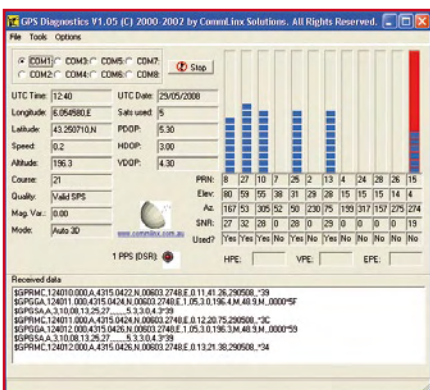

Figure 5. GPS Diagnostics lets you display and decode the NMEA frames.
- **GPS Diagnostics** [5] has a slightly less rich interface (Figure 5), but does still display all the data output by the GPS receiver, along with the raw content of the frames it provides.